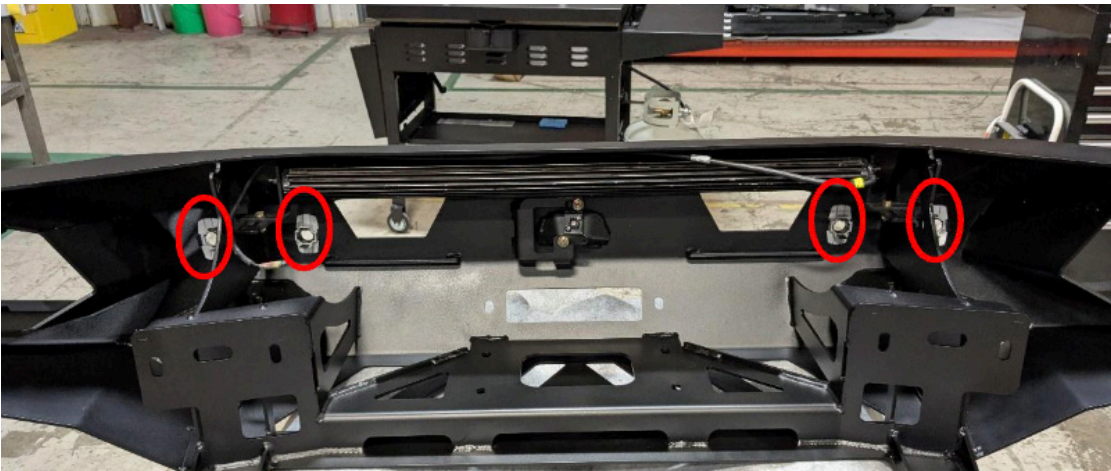

Figure 43.
33. Using the provided epoxy, adhere the parking sensor housings into the bumper shell in the same position and orientation from which they were removed from the factory bumper. Figure 43.